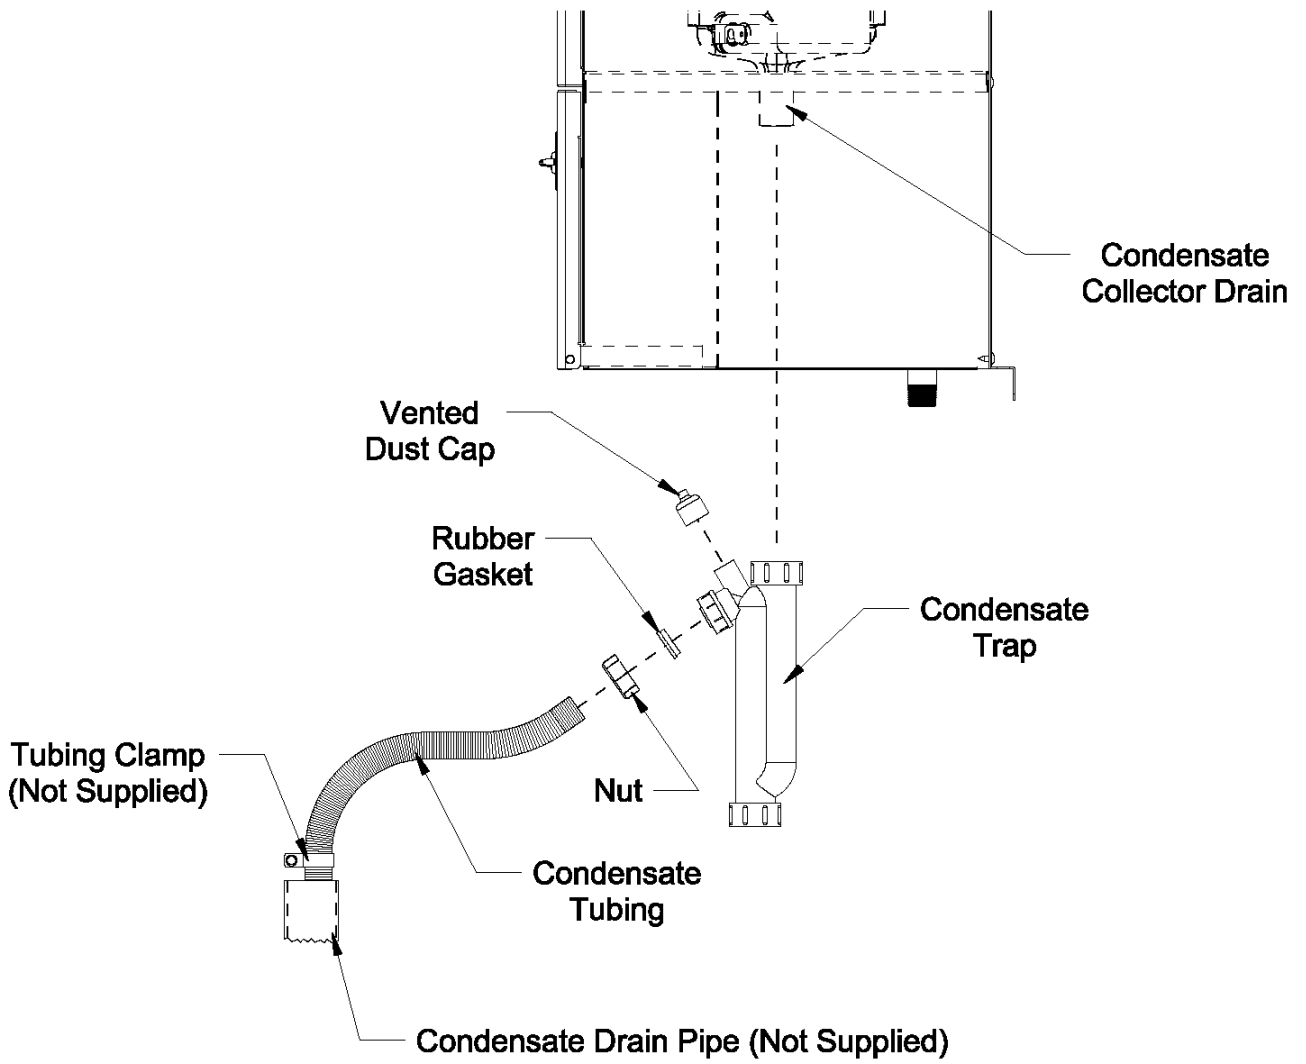

Figure 7.21: Condensate Piping Arrangement
- a) If the condensate drain line must be extended, construct the extension from PVC or CPVC pipe. Insert the hose provided with the boiler into the end of the extension as shown in Figure 7.21.
- f) Do not attempt to move the trap from the location shown in Figure 7.21. Do not attempt to substitute another trap for the one provided with the boiler.
- g) The vent shown in Figure 7.21 must be left open for the trap to work properly.